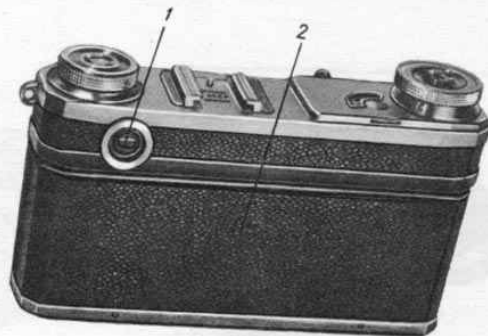

Fig. 5. Camera rear view:
3. Move camera back 2 (Fig. 5) slightly to the camera bottom and detach it. In so doing be sure to hold the camera with its upper cap down, lest the cartridge and the take-up spool should fall out.